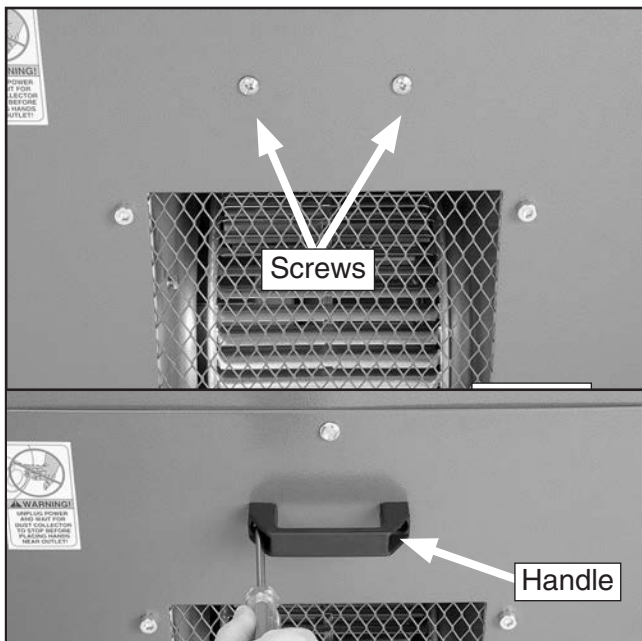

Figure 13. Installing outlet plate handle.
- Remove the screws (**Figure 13, top**) on the outlet plate and mount the handle to the plate (**Figure 13, bottom**) using the screws you just removed.